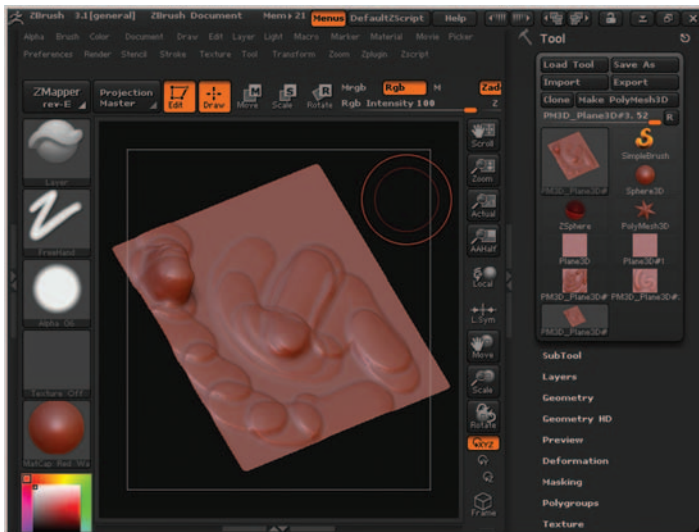

Figure 11.21 *Plane3D mesh with strokes created with the Layer brush and Alpha 06.*
22. Select the Layer brush from the Brush rollout. Select FreeHand as the stroke and Alpha 06 as the alpha. Draw some strokes on the Plane3D object. Figure 11.21 shows the Plane3D object with strokes created with the Layer brush.